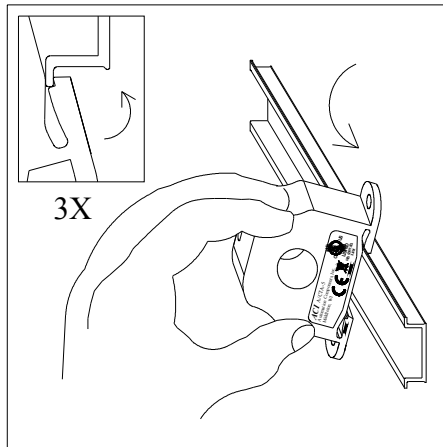

Figure 1: Sensor Placed on Rail
The A/CTA Series Analog Current Sensors should be used on **Insulated Conductors Only!** The current sensors may be mounted in any position using the (2) #8 x 3/4" Tek screws and the mounting holes in the base or snapped directly on to the 35mm DIN rail (See Figures 1 & 2 below). Leave a minimum distance of 1" (3 cm) between the current sensor and any other magnetic devices such as contactors and transformers.